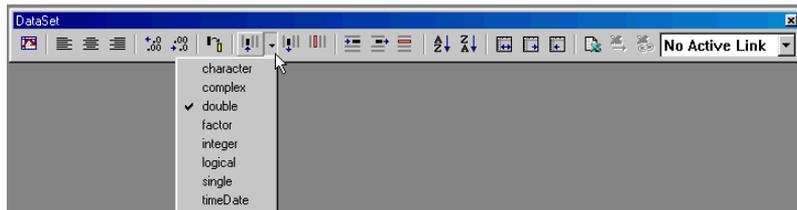

Figure 2.22: Inserting a column of a specific type.
- Click in the column you want to have shifted to the right to make room for the new column. To insert a new column of the default type, or of the same type as the last new column inserted, click the **Insert Column** button  on the **Data** window toolbar. To insert a new column of a specific type, click the column type selector arrow located to the right of the **Insert Column** button (see Figure 2.22) and select the type of column you want to insert.